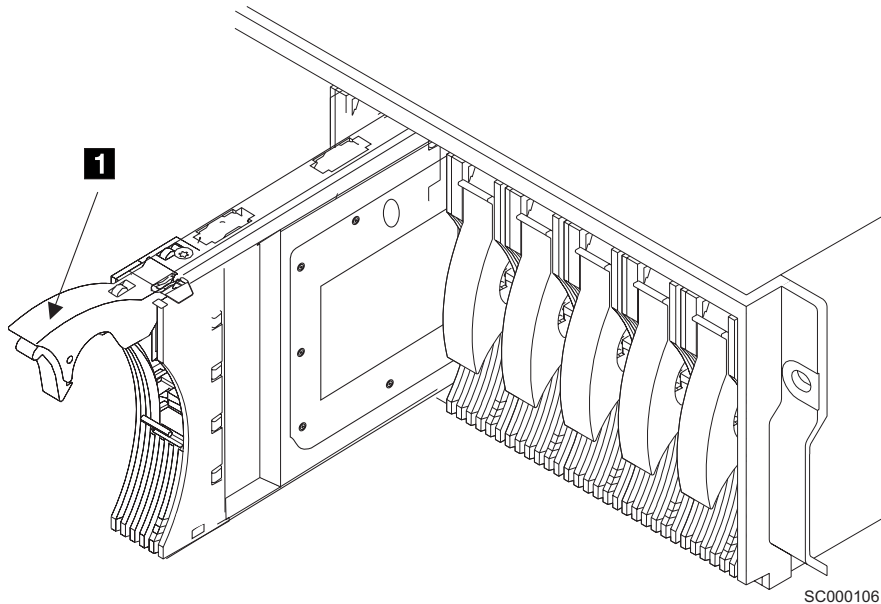

Figure 51. Installing a disk drive module in a 2104 Model DS4
7. Ensure that the handle **1** is fully open on the disk drive module that you are going to install, as Figure 51 shows.